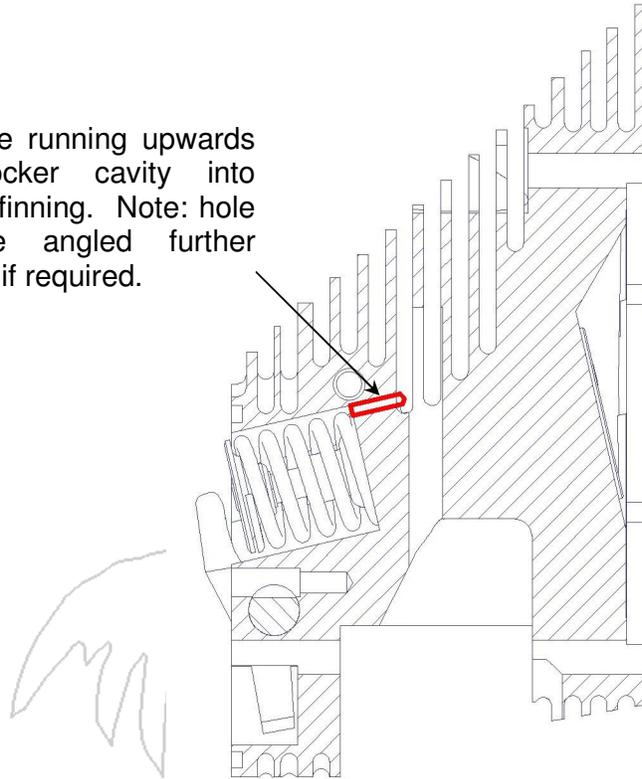

Figure 2. Sectioned View of Head Assembly – Hole Shown.
- iii) Locate the position shown in Figure 2 below and use a small centre punch to mark the hole position.